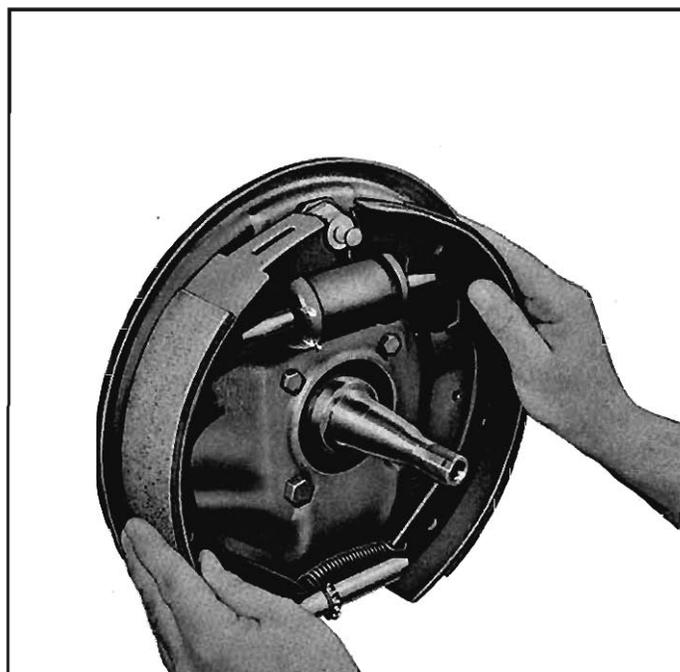

Fig. 5-9 Spreading Brake Shoes for Removal
9. Separate the brake shoes by removing adjusting screw and spring (fig. 5-9).